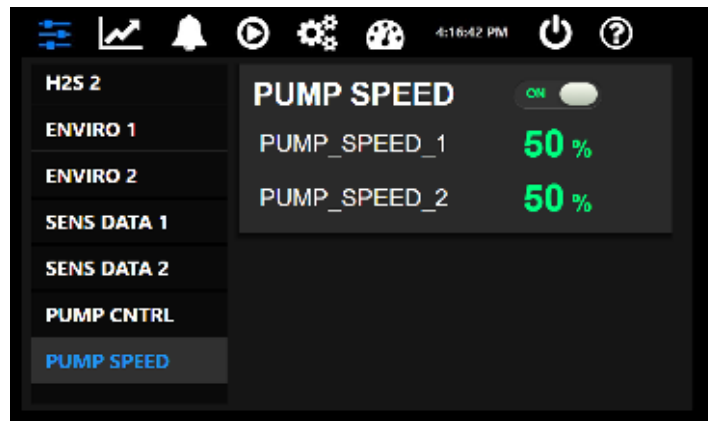

FIGURE 3-6
- One PUMP SPEED panel that displays active pump speed data for each sensor module in the network. See figure 3-6 on page 10.